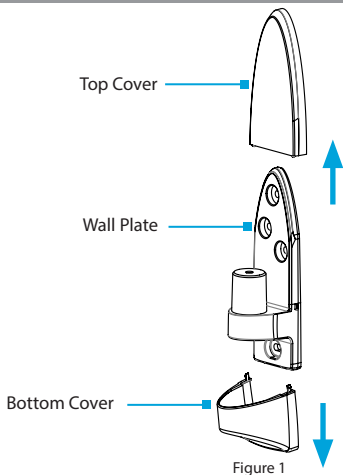

Figure 1
1. Remove the **Top Cover** and the **Bottom Cover** by pinching the sides and sliding each piece away from the **Wall Plate**. (Figure 1)